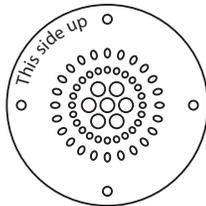

Figure 1: Water Lily - An eye-catching combination spray. Item #2C
4. The unit ships with one spray nozzle attached. To change to one of the other 2 nozzles, remove the 4 screws from the nozzle then replace with desired nozzle. Refer to Figures 1, 2 & 3 for spray pattern appearance. Nozzles are marked "This side up." Make sure the o-ring is seated in groove before installing nozzle. Tighten screws until seated, approximately 10 to 12 in-lbs.